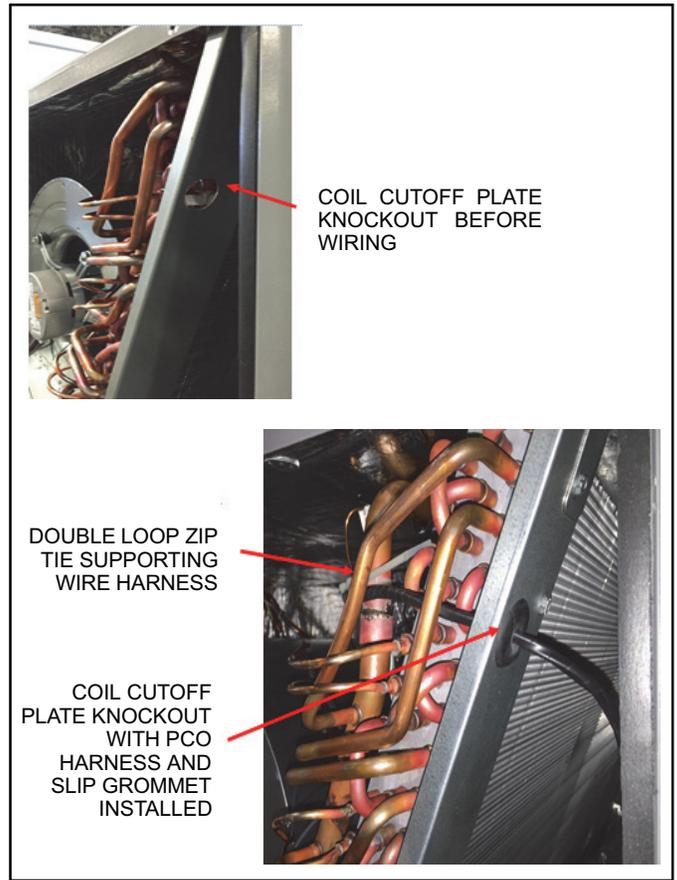

Figure 9. Coil Cutoff Plate Knockout
5. Feed wire harness through coil cutoff plate knockout (see figure 9). *Note: Knockout sheet metal will have sharp edges. Protect hands and care for wires while feeding through hole.*
6. Align taped wire section with knockout and install split grommet in knockout (see figure 9).